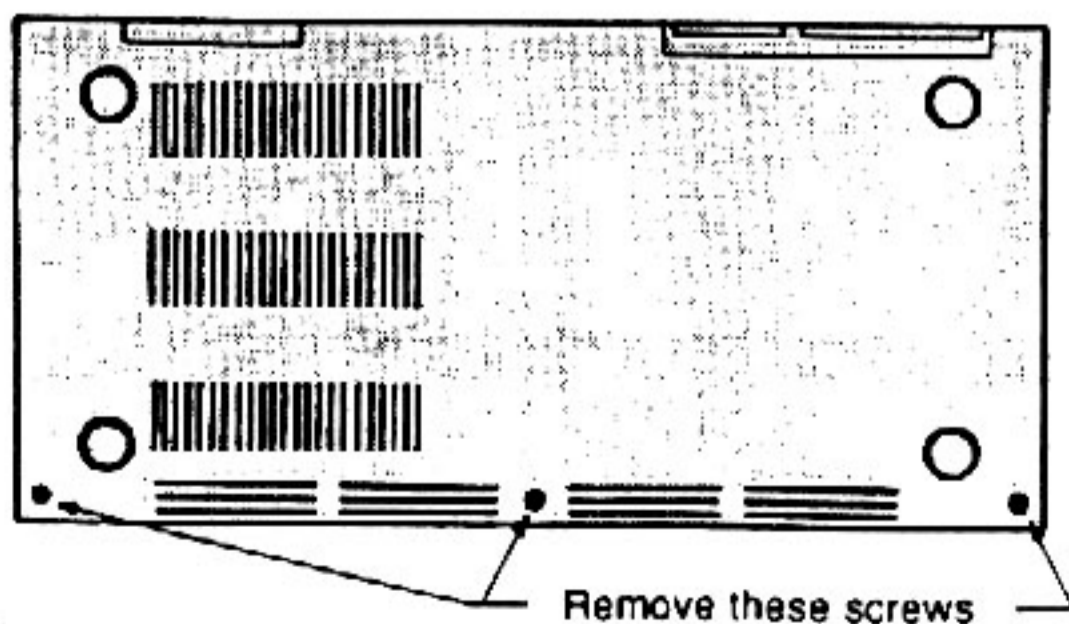

Figure 1 C-64 CASE SCREW REMOVAL
5. Turn the C-64 upside-down. Remove the three screws holding the top and bottom halves of the computer together. See Figure 1 below.